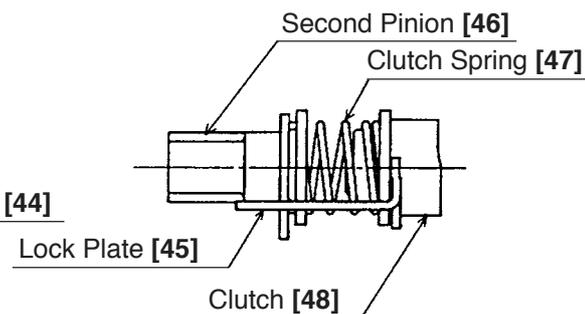

Fig. 14
- Pull out the Second Pinion [46], Clutch Spring [47], Clutch [48] and Lock Plate [45] (these parts are sandwiched by means of the Lock Plate [45] as a unit as shown in Fig. 14) from the end of the Second Shaft [49]. Turn the Reciprocating Bearing [50] so that the Piston [39] is moved to its maximum upper position (Inner Cover [41] side). The arm of the Reciprocating Bearing [50] can then be disconnected from the Piston Pin [42], and the Second Shaft [49] and the components mounted on it can be removed from the Inner Cover [41] as a unit.